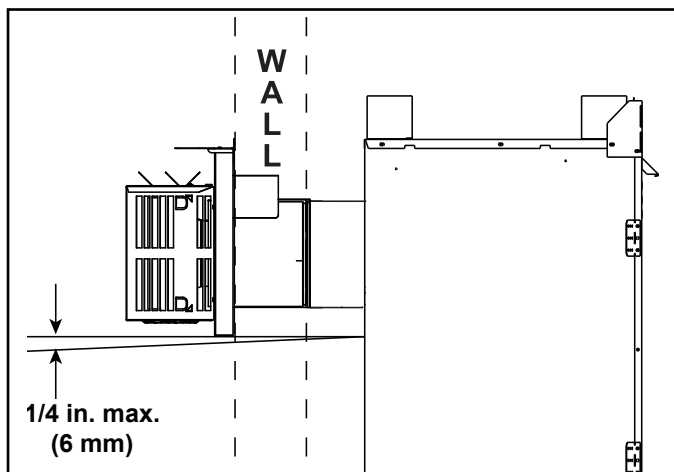

Figure 4.8
- It is recommended that the horizontal termination cap have a 1/4 inch (6 mm) downward slant to allow any moisture in cap to be released. See Figure 4.8.